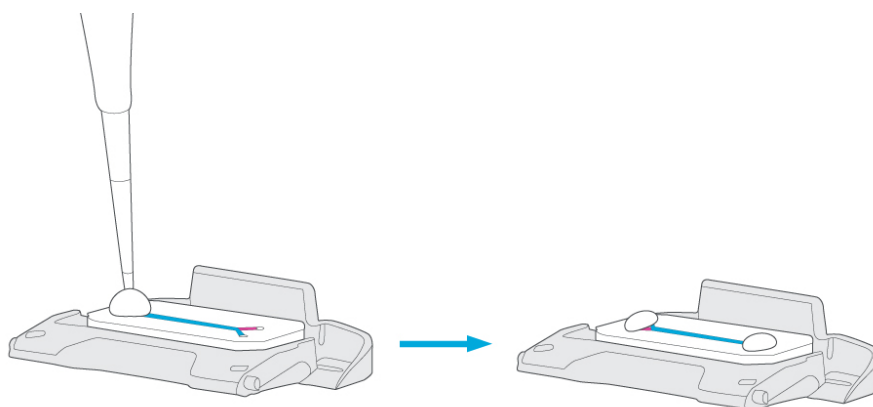

Figure 7 Chip with medium drops covering the inlet and outlet ports
- A gravity wash with 200  $\mu$ L of complete epithelial cell culture medium for the top channel and complete endothelial cell culture medium for the bottom channel per chip will provide nutrients to cells. Since there are 2 different media being used, these two media must be separated by keeping them in filtered tips instead of drops (see Figure 7).